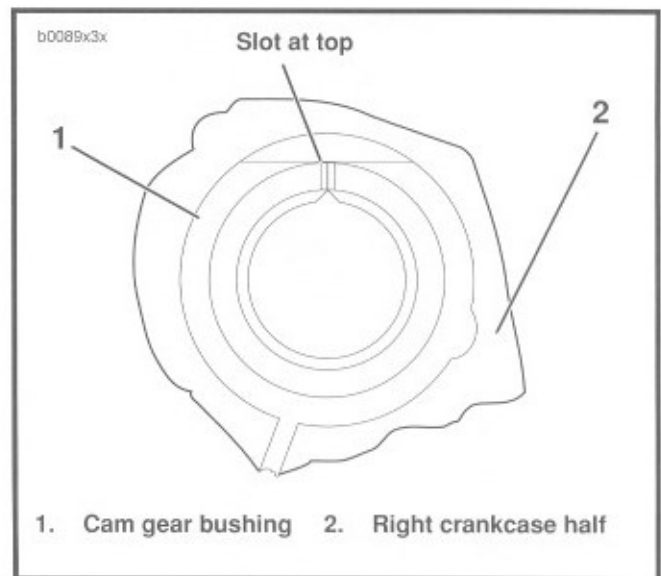

Figure 3-64. Cam Gear Bushing Installed in Crankcase
- See Figure 3-64. Each cam gear bushing (1), to be installed in right crankcase half (2), must be positioned in crankcase bore with its oiling slot at exact top of bore (12 o'clock position).
1. Separate two halves of crankcase, if not already accomplished. Place right crankcase half on flat surface with gearcase side upward. Bushing to be reamed must be oriented as shown in Figure 3-64.